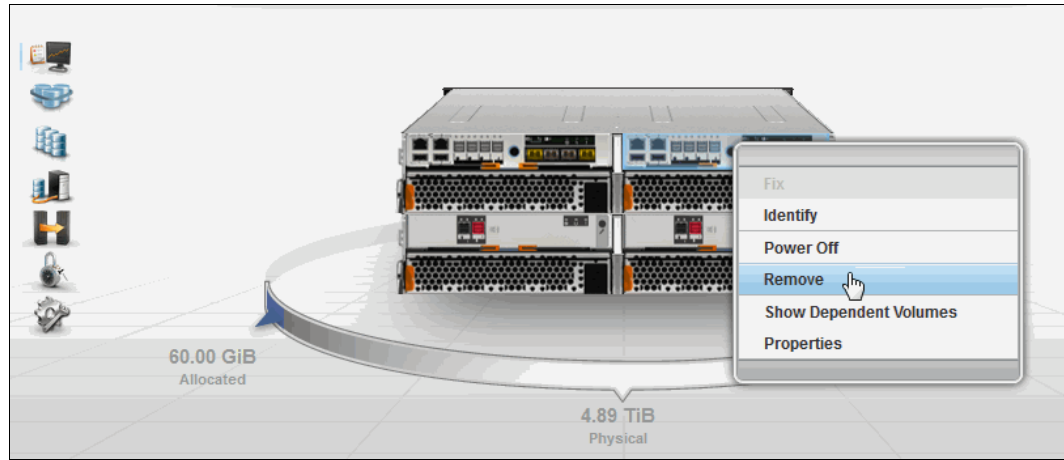

Figure 11-40 Remove the non-config node from the cluster
8. Select the canister that contains the node that you want to update and select **Remove**, as shown in Figure 11-40.